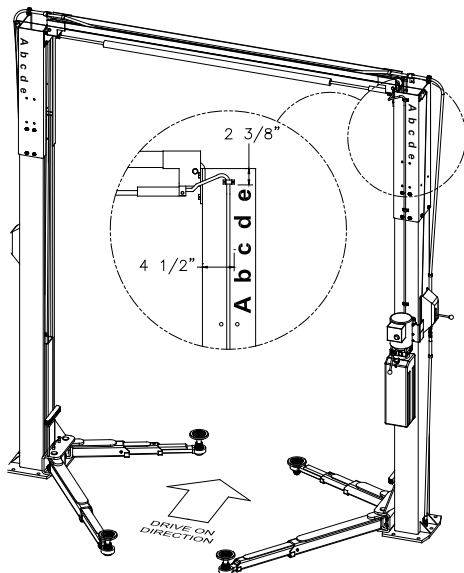

Fig 8 – Decal Placement
- 37) Apply decal to each column extension as described in **Fig. 8** below.